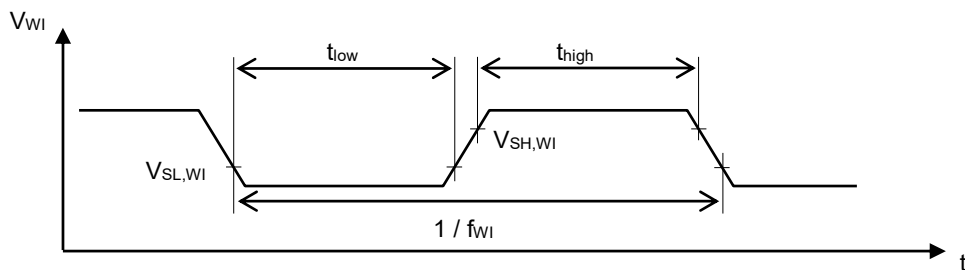

Figure 5
- *2. When inputting a rising edge that satisfies the condition of Figure 5 to the WI pin, the watchdog timer detects a trigger.
The signal input from the monitored object by the watchdog timer should satisfy the condition of Figure 5.